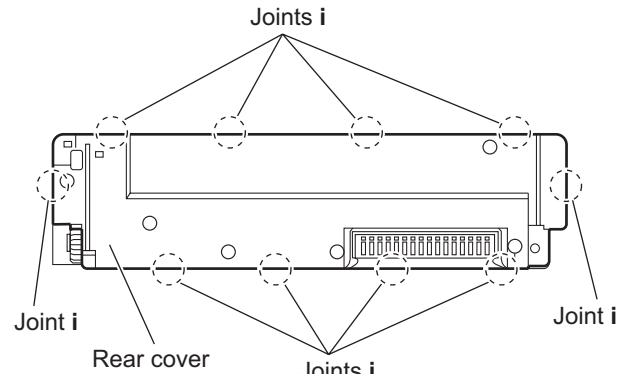

Fig.13
- (2) Release the ten joints **i** attaching the rear cover to the front panel assembly. (See Fig.13.)